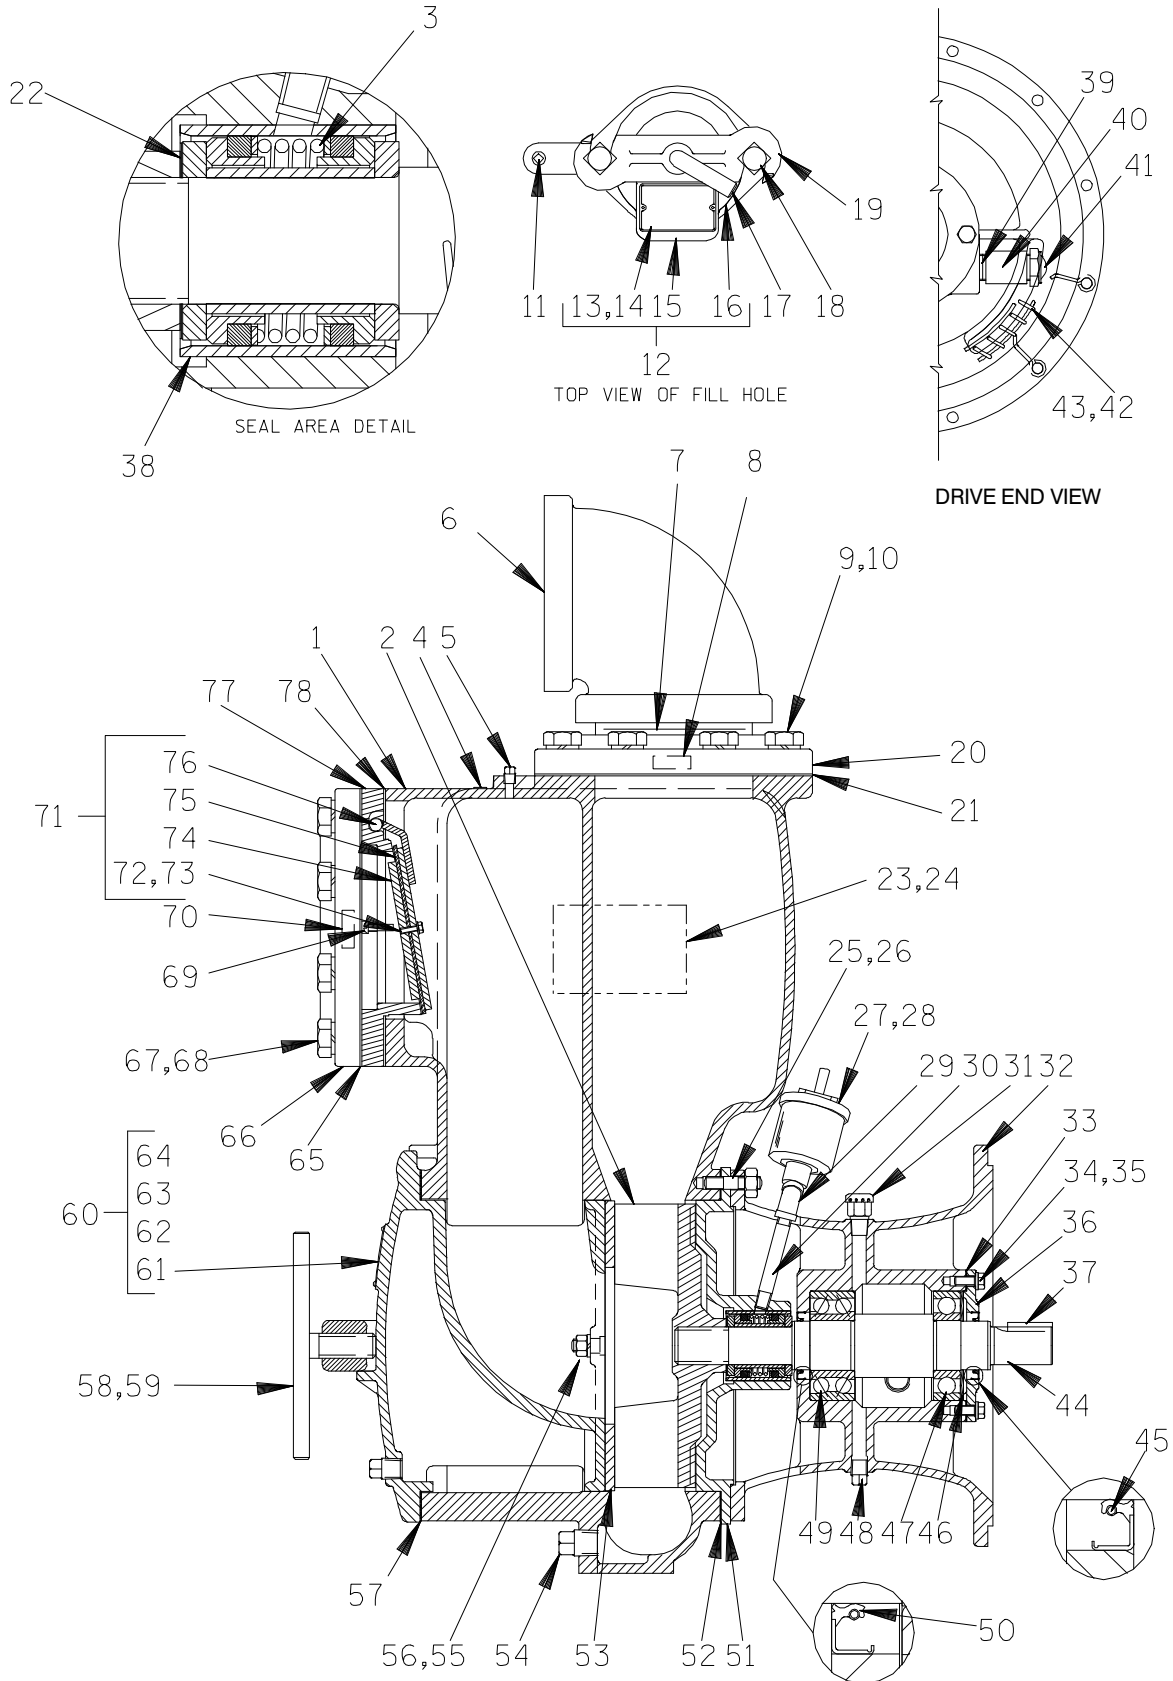

Figure 2. 16A2-(SAE 4/10) Pump End Assy
(Figure 2)
the circumference of the bushing. As the coupling and bushing separate, remove the bushing, and slide the coupling off the shaft. Remove the shaft key (22, Figure 2).
#### (Figure 2)
Position the inboard oil seal (50) in the intermediate housing bore with the lip positioned as shown in Figure 2. Press the oil seal into the housing until the face is **just flush** with the machined surface on the housing.